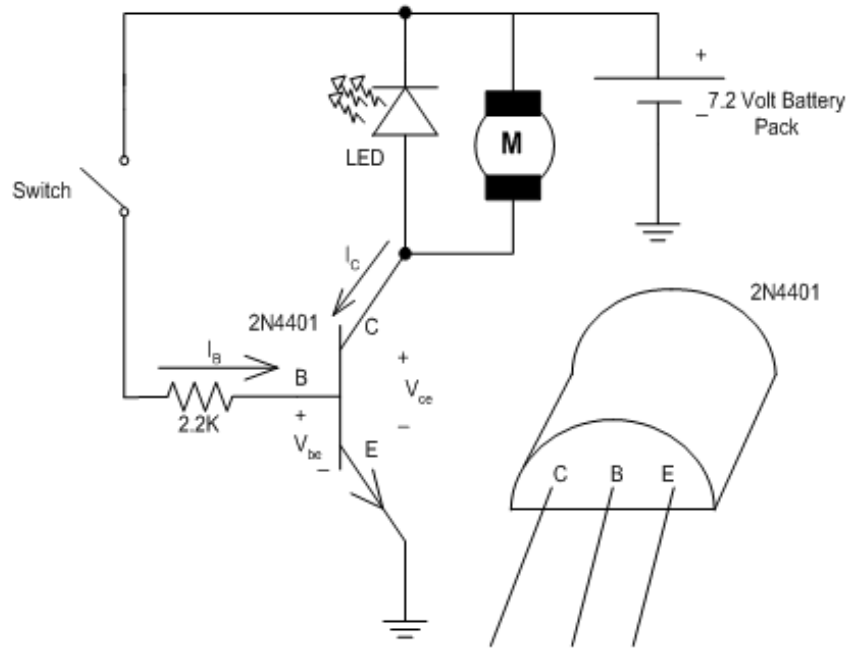

Figure 4.7: A switch using a NPN transistor and the pins of the 2N4401
1. **With the wheels removed from the robot**, build the circuit as shown in Figure 4.7, on the protoboard. Create the switch using a movable wire.
The motor control board needs to be able to spin both motors in either direction to allow the robot to back up and turn. The motors are turned on or off by applying a high or low voltage level respectively to the motor drive circuits. These signals come from digital logic gates. The digital logic gates are implemented to keep the transistors from breaking. This protection block is called the current sequencer. The arrangement of the transistors in the motor drive circuit gives this circuit the name "H-bridge". Try to spot the "H" in Figure 4.7.